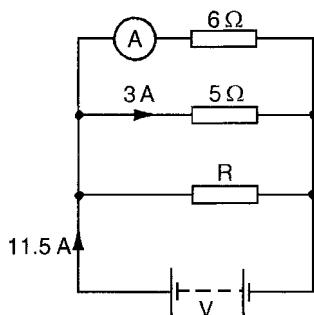

Figure 5.29
- 2 For the circuit shown in Fig. 5.29 determine